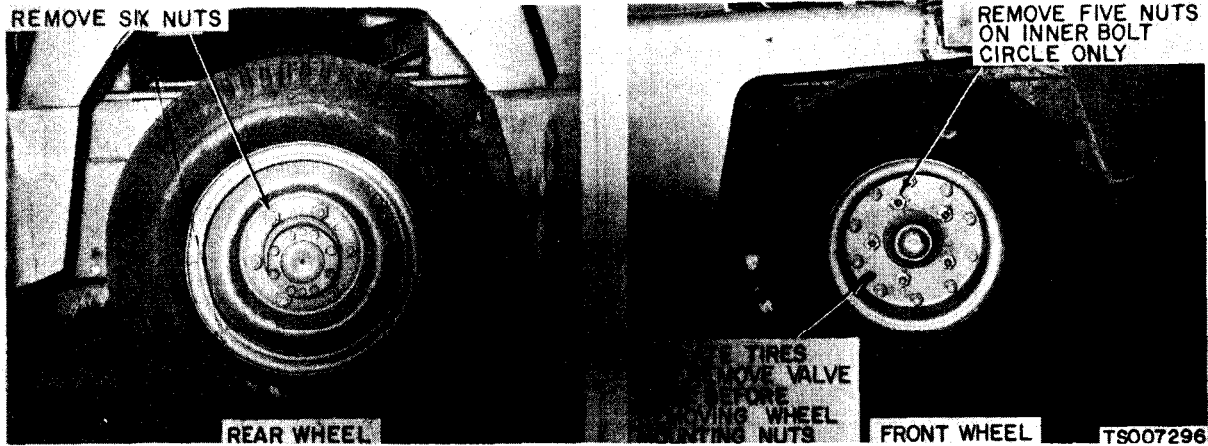

Figure 9-1. Wheel Removal.
(1) Raise or jack up vehicle until the tire clears the floor. Deflate tire completely and remove valve core.
(2). Refer to figure 9-1 and remove the nuts on the INNER BOLT CIRCLE ONLY.